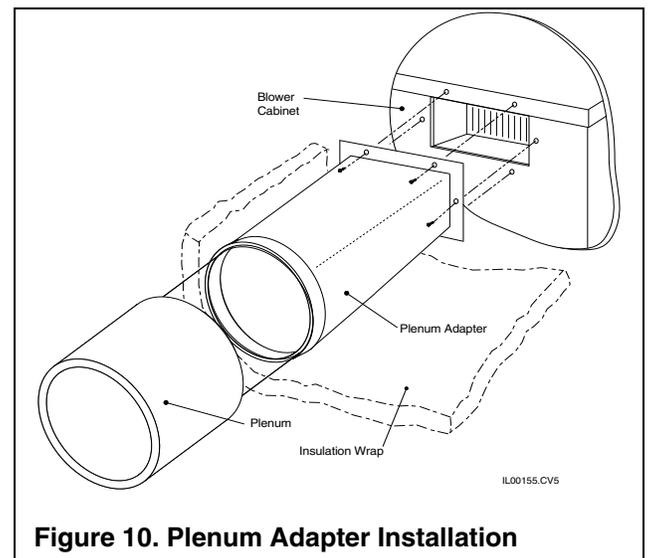

Figure 10. Plenum Adapter Installation
To attach the plenum adapter to the unit, align the holes on the adapter with the holes located around the supply outlet on the unit. Mount the adapter with six (6) sheet metal screws. See Figure 10.